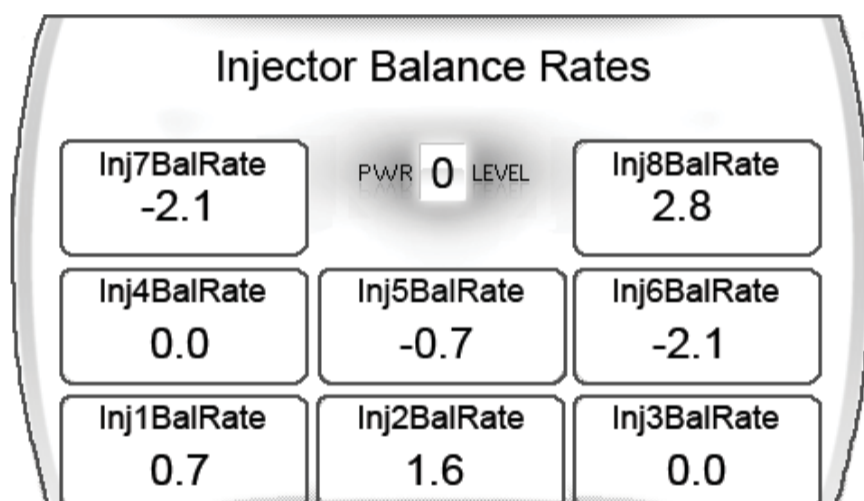

Figure 12
2. **Select Yes.** Figure 12 will appear. Each box represents an Injector. This screen is where you'll want to compare the injector balance rates in both Park and Drive.
**NOTE:** *Figure 12 injector balance screen shot represents a truck with injector balance rates that are acceptable. The sample was taken in park. You can see that there are no numbers higher than +4.0 or -4.0 on the screen, so it's safe to assume the injectors are working properly.*